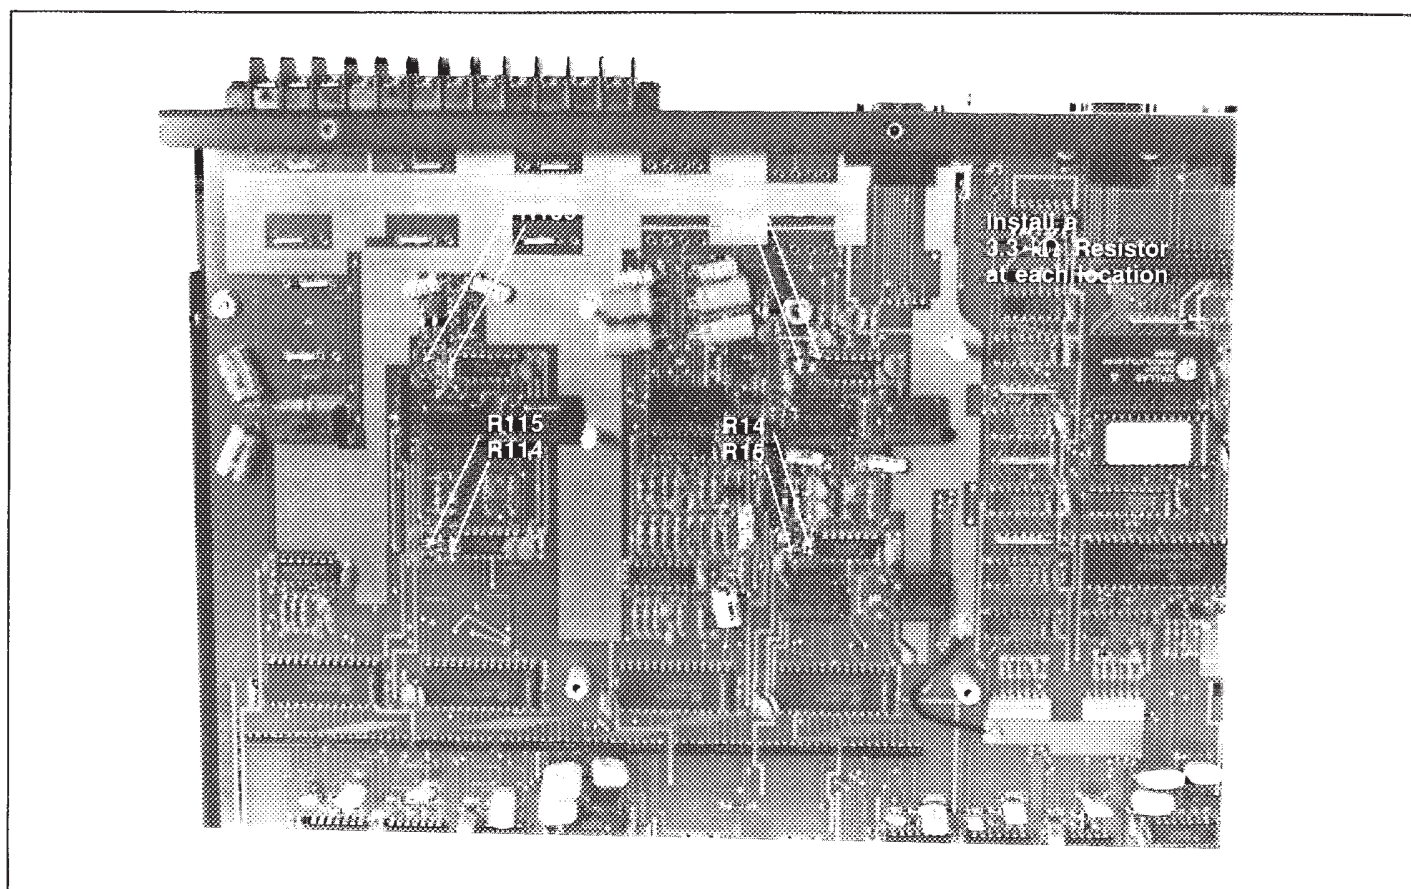

Figure 5 Modifying the Main Circuit Board for ± 6 dB of Boost/Cut with $\frac{1}{2}$ dB Resolution
4. Several resistors should be omitted. They are designated R₉, R₁₀, R₁₀₉, R₁₁₀, R₁₄, R₁₅, R₁₁₄, and R₁₁₅ as shown in Figure 5. Installing the 3.3 k Ω resistors in these locations will decrease the maximum boost and cut of each frequency band to ± 6 dB and provide $\frac{1}{2}$ dB resolution. Since the circuit board is double-sided, the resistors can be installed without removing it from the chassis. However, you must trim the leads enough before soldering the resistors in place to insure that the protruding leads extending from the bottom of the circuit board CAN NOT TOUCH the chassis.